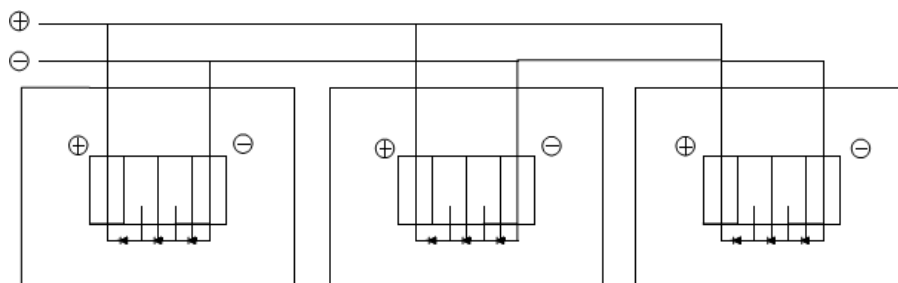

Figure 3.PARALLEL for more current
- ☆ Connect PV modules in parallel to increase current. Connect wires from the positive terminal of one module to the positive terminal on the next module. Figure 3 shows modules connected.
The modules may be fastened to a support using the bolt holes in the bottom of the frame at location “C”, as shown in Figure 1 (back view of the module) 、 Figure 2 (mounting detail) and Figure 3 (parts detail). The modules have 4 mounting holes to be installed with 4 M8bolts.